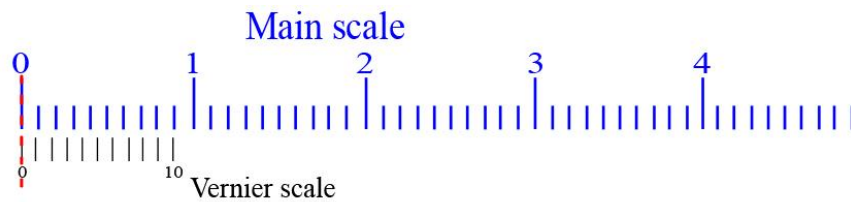

Figure 1.16: Vernier caliper with no zero error.
- if the zero marks on both the main scale and the vernier scale both coincide as shown in Figure 1.16, this means there will be no zero error in the measurements.